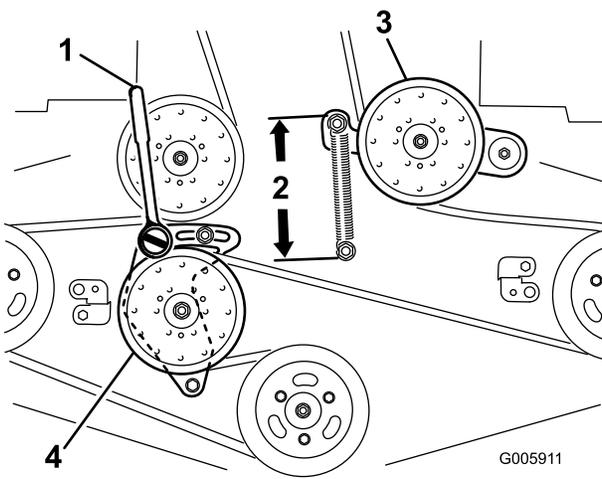

Figure 89
6. Loosen the fixed idler arm and adjust it to relieve belt tension (Figure 89).
9. Insert a ratchet with a short extension or a breaker bar into the square hole in the fixed idler arm (Figure 89).
11. To increase the belt tension, rotate the ratchet or breaker bar counterclockwise to move the fixed idler arm until there is 16.5 cm (6-1/2 inches) between the spring hooks (Figure 89).